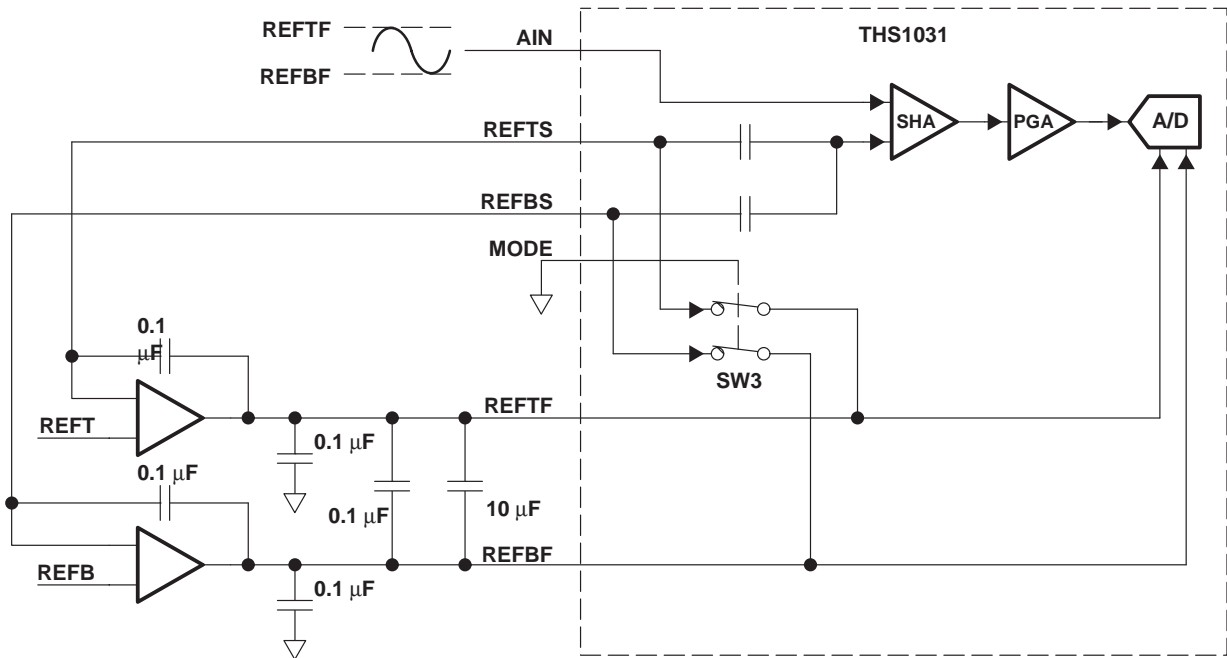

**Figure 15. External ADC Reference Mode**
- **External ADC Reference Mode:** A single-ended analog input is accepted at the AIN pin where the input signal is bounded by the voltages on the REFTS and REFBS pins. Figure 15 shows an example of applying external reference to REFTS and REFBS pins in which REFTS is connected to the low-impedance 2-V source and REFBS is connected to the low-impedance 2-V source. REFTS and REFBS may be driven to any voltage within the supply as long as the difference  $(REFTS - REFBS)$  is between 1 V and 2 V as specified in Table 2. Figure 16 shows an example of external-reference using a Kelvin connection to eliminate line voltage drop errors.